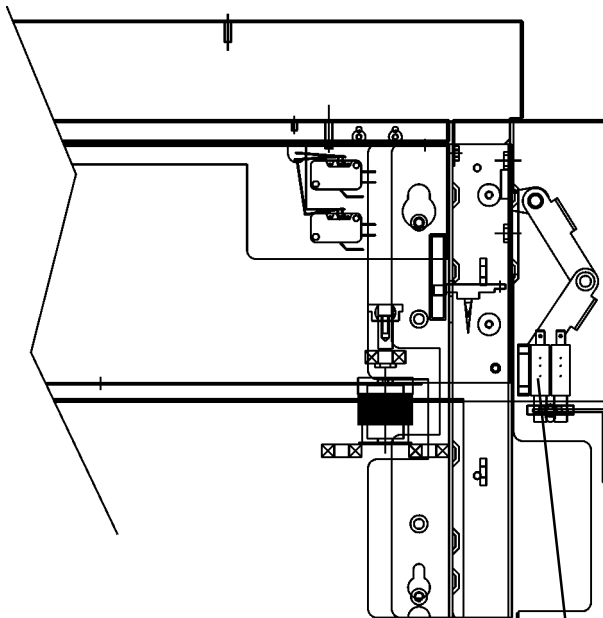

FIGURE 1
3. Disconnect the connectors from the switches. **FIGURE 1**